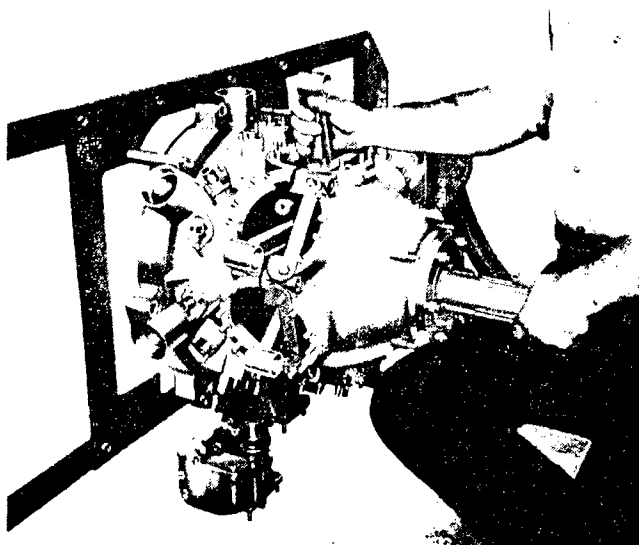
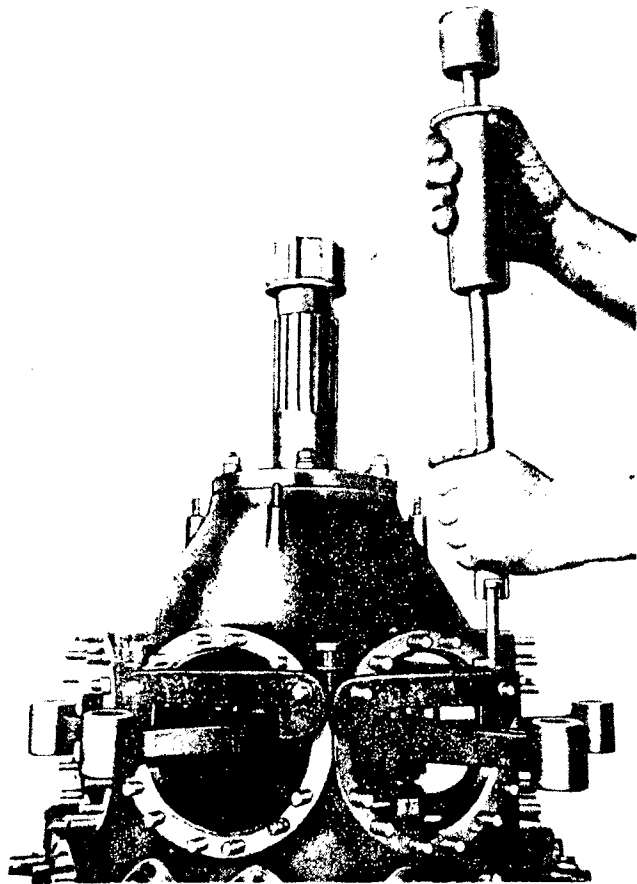

Figure 40 — Removing Front Crankcase and Crankshaft Assembly from Rear Crankcase
Figure 39 — Removing Crankcase Bolts with Tool No. 3893
(1) Remove the nut from the crankcase bolt located just above the main oil sump. This nut will be found projecting inside the rear section of the main crankcase.
(2) Turn engine on its assembly stand to a horizontal position.
(3) Remove remaining crankcase bolt nuts.
(4) Use a special drift and drive the crankcase bolts from the crankcase so that the ends of the bolts will be flush with the crankcase.
(5) Pull all crankcase assembly bolts from the case with tool No. A3893. (See figure 39.) Lift off the crankcase front half (with the crankshaft and connecting rod assembly) from the rear half of the crankcase. (See figure 40.)